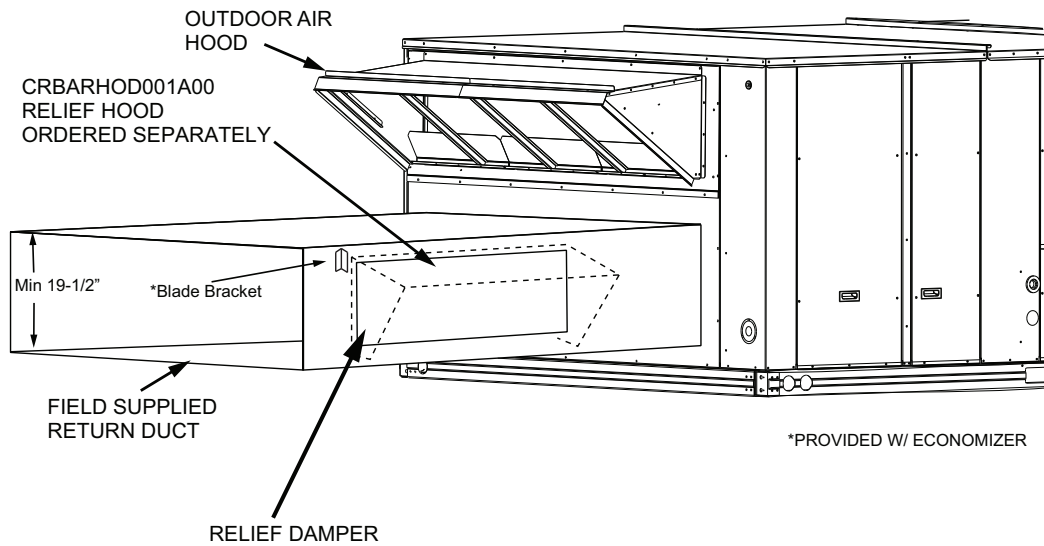

Fig. 19 — Installing CRBARHOD001A00 Over Relief Damper
4. Using the blade brackets, install the relief damper onto the side of the return duct (see Fig. 19). The two brackets and relief damper are provided with the economizer.
5. Using the provided hardware, screw the CRBARHOD001A00 hood sides and top together. (See Fig. 19.)